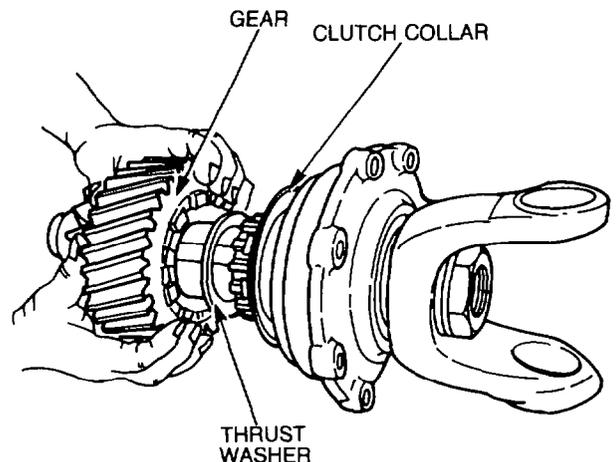

Figure 217 — Installing Clutch Collar, Thrust Washer and Drive Gear
- ap. Lubricate with differential oil and assemble the clutch collar, thrust washer and the helical drive gear onto the input shaft (see Fig. 217).